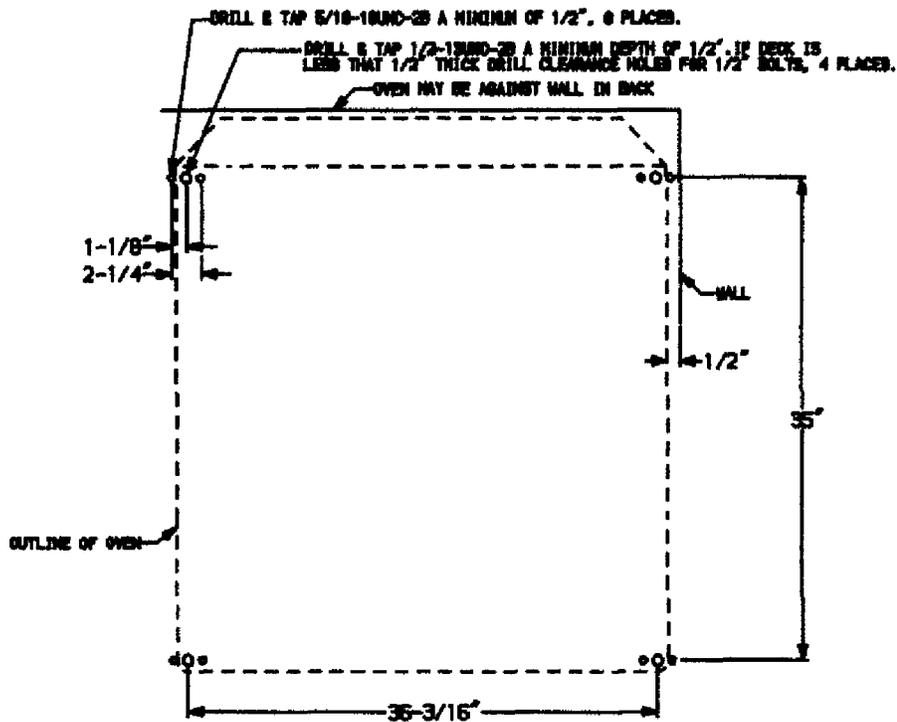

Figure 8-5. Single Section Bolt Hole Pattern
1. Figure 8-5 shows the bolt hole pattern for attachment to the deck. The holes should be prepared prior to oven installation.
2. Screw the four studs into the center holes of each hole group. See Figure 8-5.